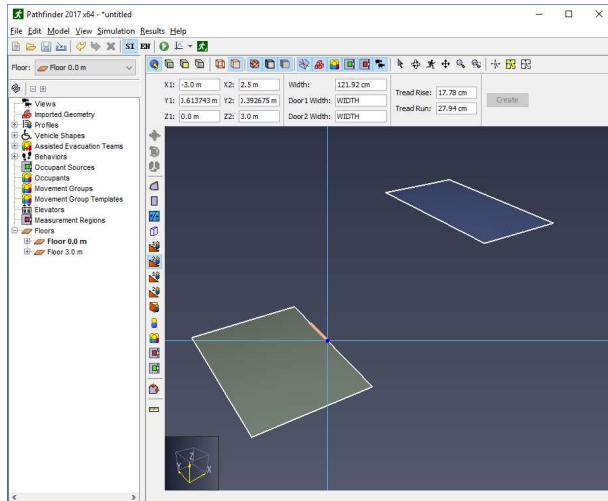
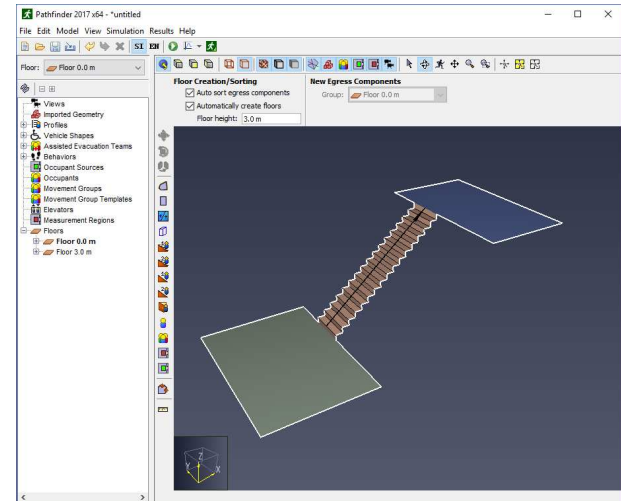

Figure 58. Click the first edge
Figure 59. Click second edge to finish stairs
- b. **Two-click:** Set the desired stair width. Move the cursor over the first edge, and a preview line similar to a thin door will appear previewing the top or bottom of the stairs. Single-click to set the point. (Figure 58) Now move the cursor over the second edge. Now a preview of the stairs will appear connecting the first edge to the second. Single-click on the second edge to create the stairs (Figure 59).